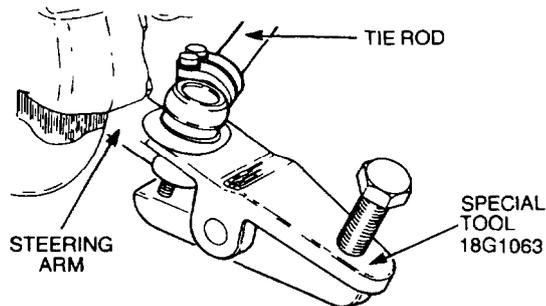

Figure 77 Steering Linkage Removal
- k. Remove the split pin, castellated nut and washer securing the tie rod ball joints. Using special tool 18G1063, disconnect the ball joints from the steering arms. Discard the split pin (Figure 77).